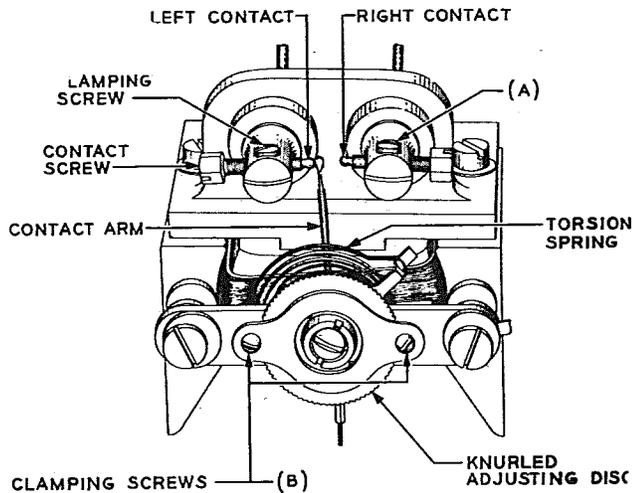

FIG. 5 - CONTACT ASSEMBLY - WESTON TYPE RELAYS
2.03 Tightness of Contact Screw Clamping Screws (260 Type or Weston Model Relays) - Fig. 5(A) and 6(A): The contact screw clamping screws shall be sufficiently tight to hold the contact screws in their adjusted position. Gauge by feel.
2.04 Tightness of Adjusting Disc Clamping Screws (260 and 261 Type Relays and Weston Model Relays) - Figs. 5(B), 6(B) and 7(A): The adjusting disc clamping screw shall be sufficiently tight to hold the knurled adjusting disc in its adjusted position. Gauge by feel.